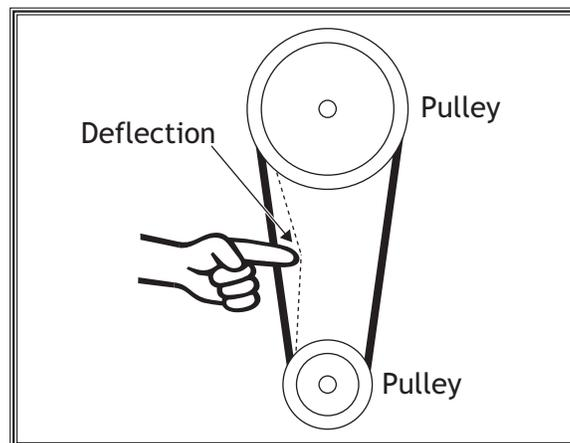

Figure 62. Checking V-belt tension.
4. To tension the V-belt, slide the motor to the left until the V-belt is snug, then tighten the bolts. The amount of V-belt deflection between the pulley should be approximately 1/4" when moderate pressure is applied, as illustrated in **Figure 62**.